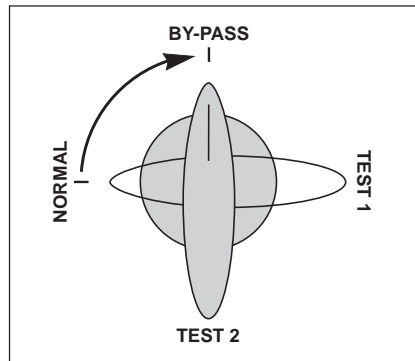

Fig. 24
- turn off the input power switch (1),
- switch the battery circuit breaker (4) to "off" position,
- turn the "manual bypass" switch (8) as indicated in figure 24 from the **"NORMAL"** position to the **"BYPASS"** position.